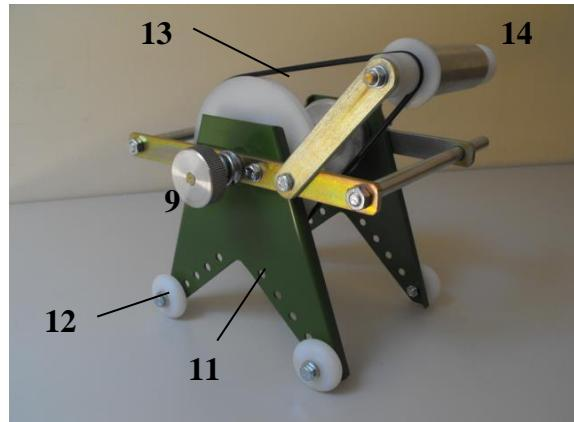

Fig. 2
1. Place the wheels (8) with screwed axle in adequate holes (11) on the outside of the wrapping frame (1) and (2), on one level in such a way that the hand wrapping machine could easily move on the pipe surface on the wheels.
2. To install the tape, remove the cotter pin (10) from the spindle (4) and remove the movable arm (2).
3. Place the roll with the tape so that the slot goes into the core of the roll (5) of the fixed part of the frame (2).
4. Assemble the movable part of the frame (2), the socket of the core of tape (5a) of the movable part (2), so that the socket also fits into the core of the tape.
5. Place the locking pin in the pin with the appropriate hole (4).
6. Pre-tension the spring-friction clutch with the knob (9) fig. 2. Turn the knob (6) to the right -
7. it will increase the belt tension, turn it to the left - decrease it. The cotter pin must be firmly seated and fix the movable part of the frame (2).